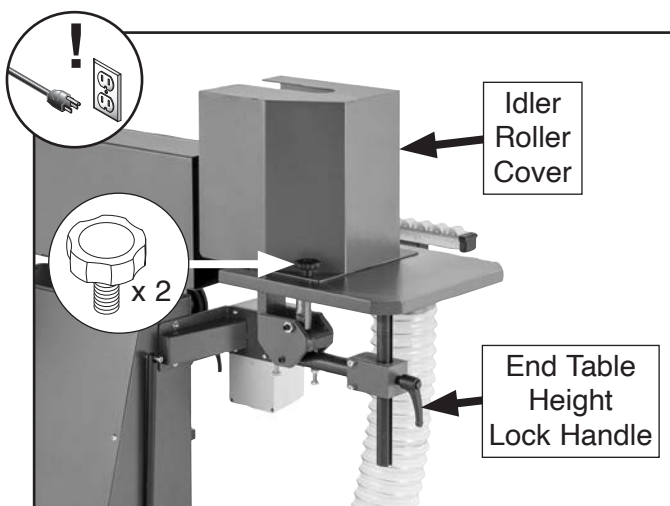

Figure 51. Location of idler roller cover knob bolts and end table height lock handle.
2. Remove (2) knob bolts shown in **Figure 51** to remove idler roller cover.
3. While holding end table, loosen end table lock handle, adjust end table height as desired, then tighten lock handle to secure (see **Figure 51**).